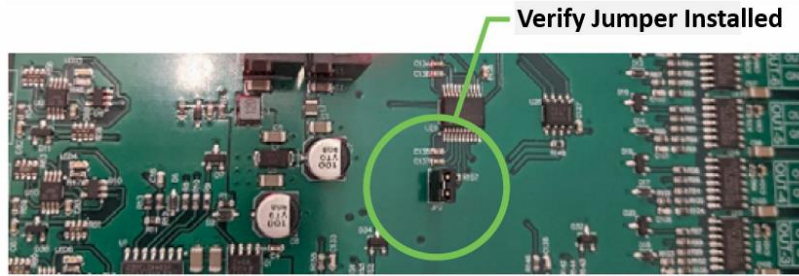

Figure 4. Unist SmartFlow® Controller Board Showing Communication Jumper
2. Next, verify that the jumper JP2 is in place on the controller circuit board and is connecting both pins of JP2 as shown in Figure 4 (When communications are disabled this jumper is inserted onto only 1 pin of JP2).